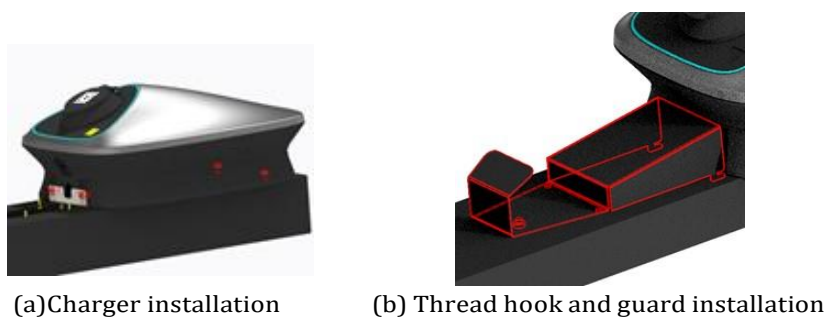

Figure 23: charging station settings for Aurora
4. Hang the charging station on the column, screw in two pattern M6*12 (Torque: 1.8 - 2.0 N.m) combination screws at the bottom, as shown in Figure 23.